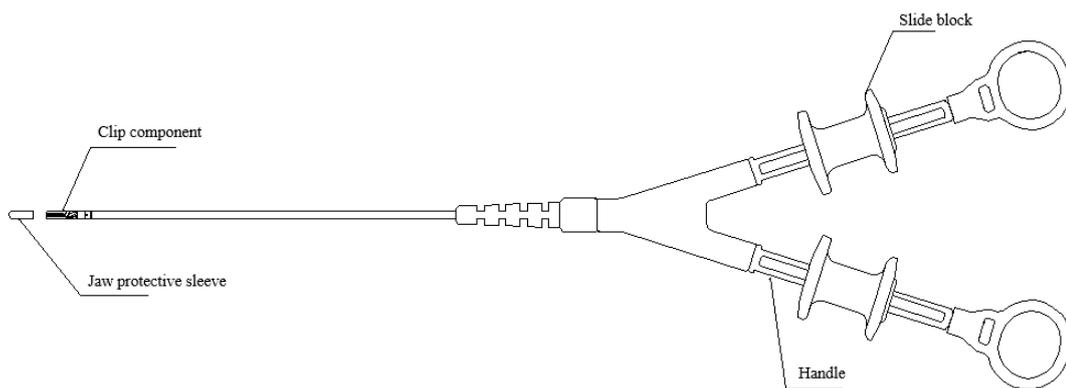

Fig 2 Remove the jaw protective sleeve
- A. Remove the jaw protective sleeve of the front end of Disposable Dual Action Tissue Clip (as shown in Fig 2), control the two handles with two hands respectively, pull the slide block to the handle ring position and maintain the appropriate tension until the clip is completely closed.